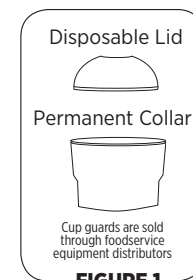

FIGURE 1
- Place a cup guard on the cup (See Figure 1). Hold the cup (and lid or collar) securely in your hand (from the side, not from the bottom) and reach under the splash guard. Move the cup under the agitator and lift up so the agitator touches the bottom of the cup. See Figure 2.